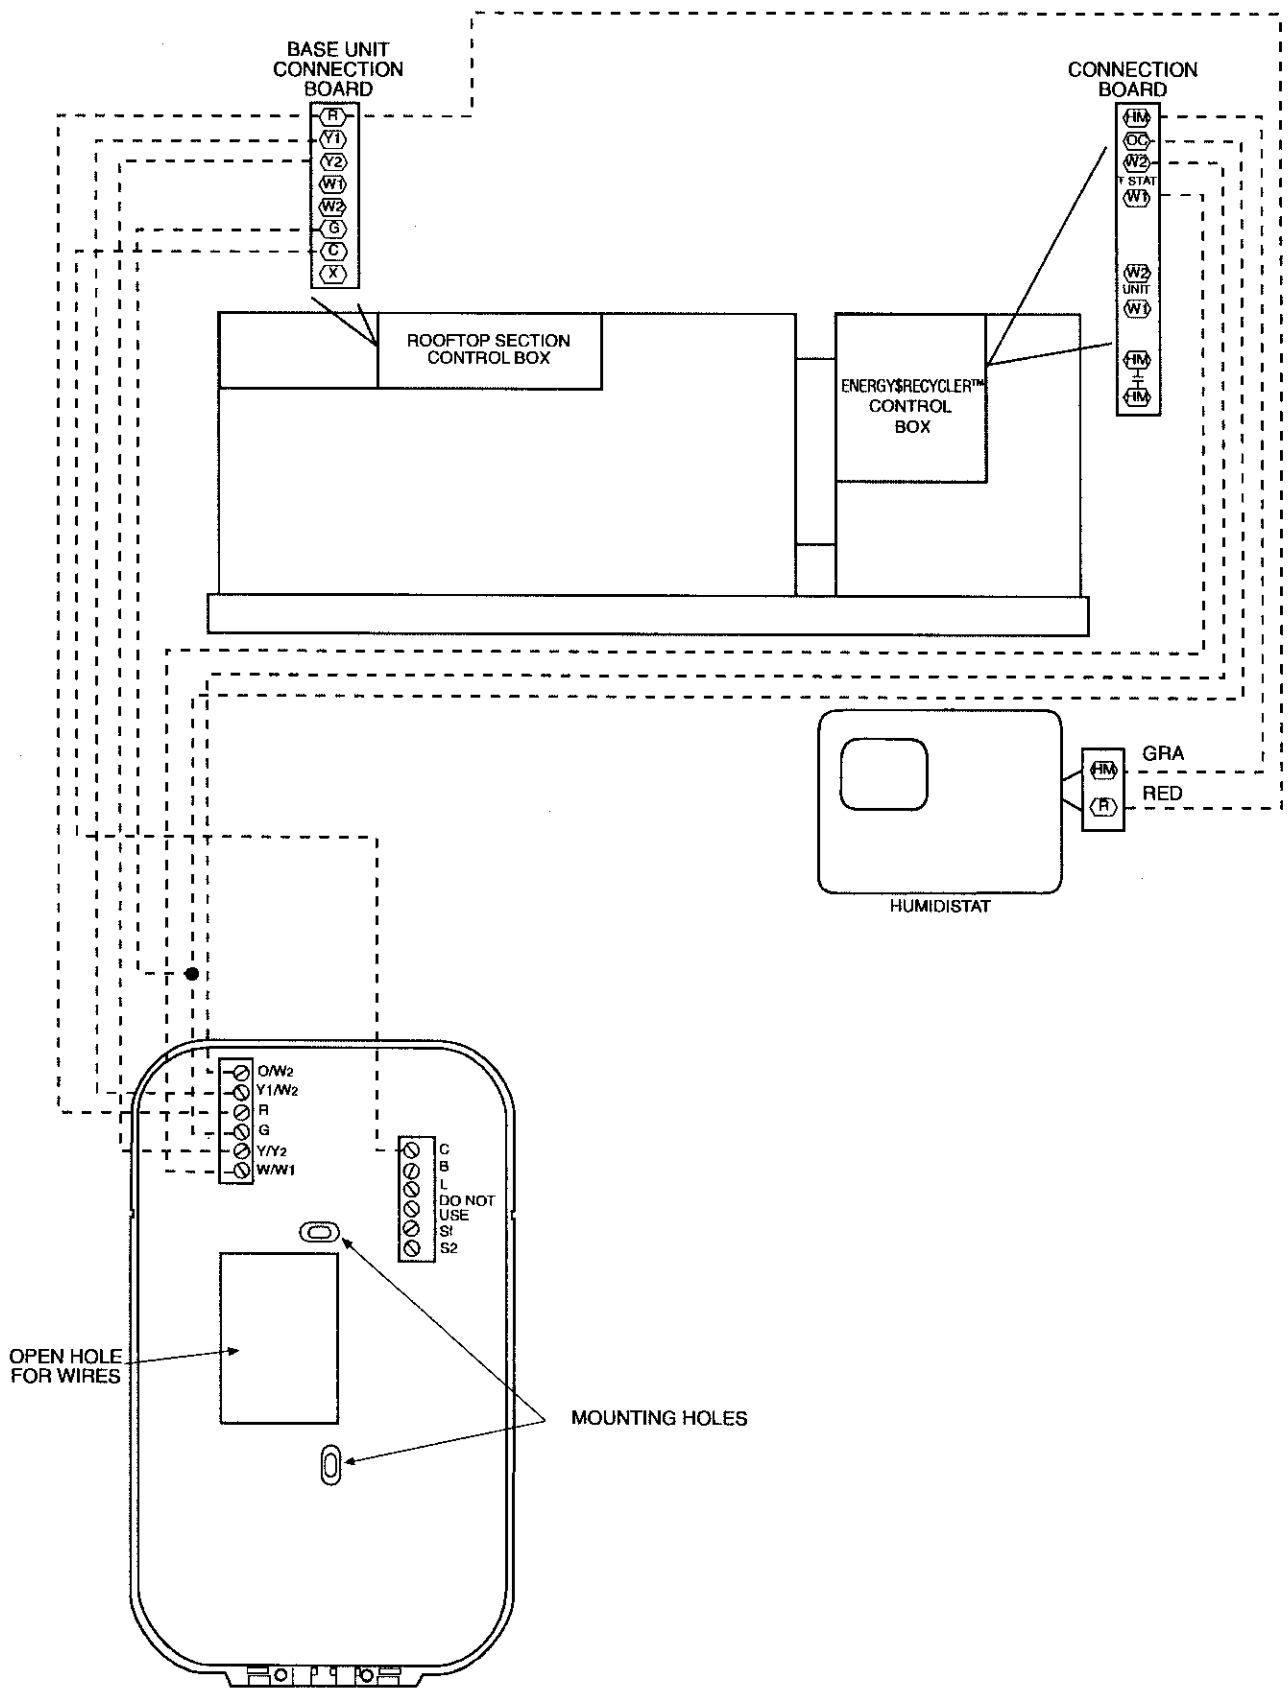

Fig. 17 — Control Wiring with Digital Thermostat, Humidistat and Electro-Mechanical Controls
- digital thermostat, humidistat and electro-mechanical controls (Fig. 17)
If a PremierLink controller is used, a Thermidistat device does not have to be used; a humidistat and separate room air sensor can also be used. Two extra terminal blocks (TB2 and TB3) are provided in the control box for all units with PremierLink controls. No wires should be directly connected to the PremierLink control. Wire sensors to TB2 or TB3. Humidistat is wired to TB1 and the Energy\$Recycler section. See Fig. 17.